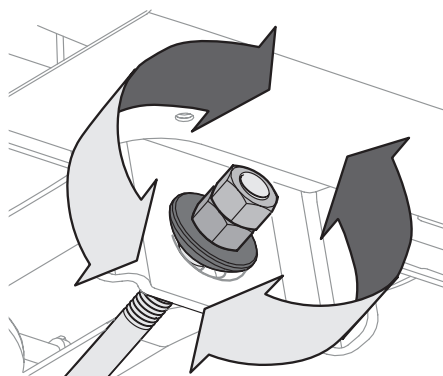

Figure 4-8
4. To *raise* the front of the deck, loosen the outer nut then tighten (thread inward) the nut against the front hanger bracket. See Figure 4-8. When proper adjustment is achieved, re-tighten the outer nut to 25-30 ft.-lbs.